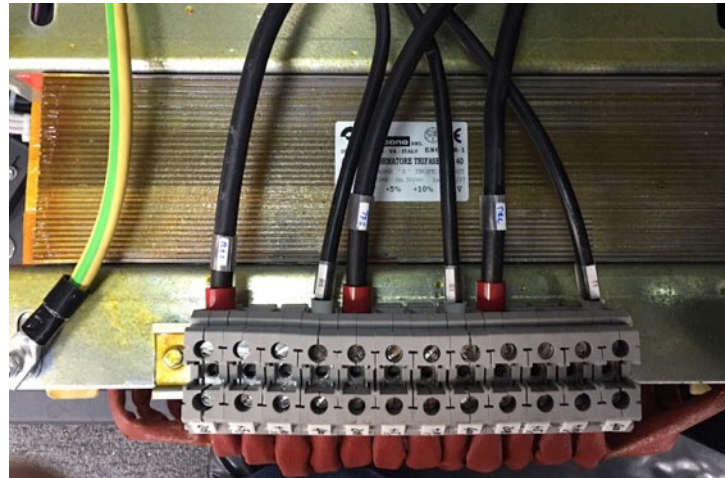

Figure 1-14: Transformer configuration
1. The electronics cabinet contains the transformer mounted to the cabinet floor, Figure 1-14.
2. The Main facility power IN legs connect to the transformer based on the incoming power Phase to Phase values; see Figure 1-14.